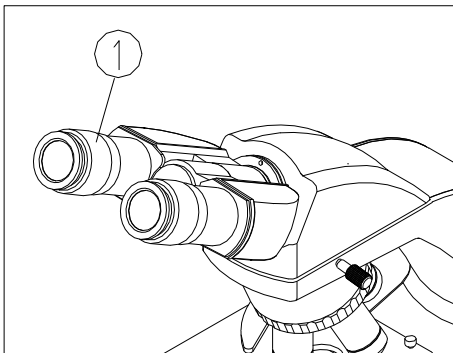

Fig.22
3.3.7 Adjusting the Diopter (Fig.22)